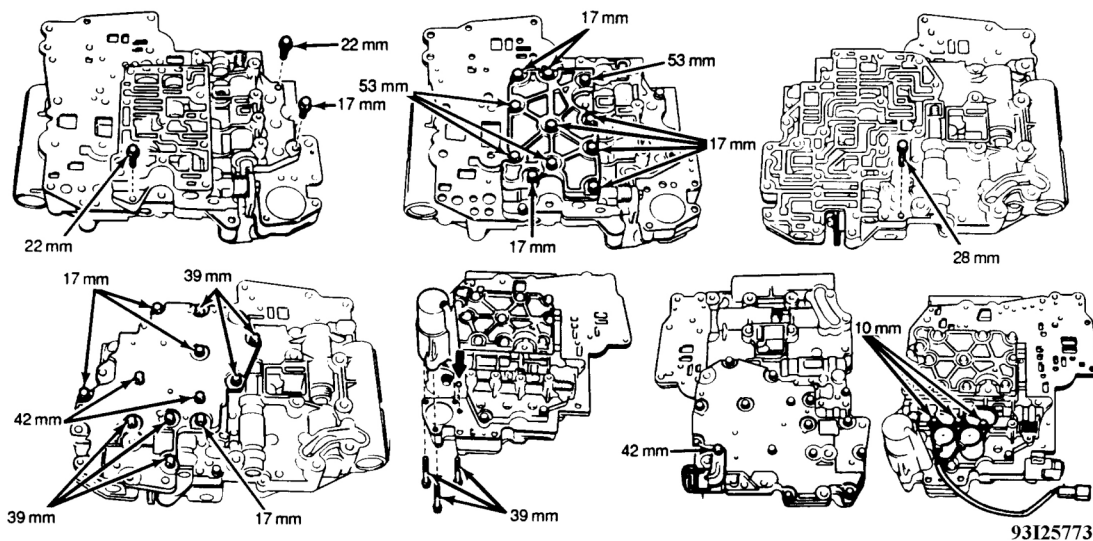

Fig. 40: Locating Valve Body Bolts
1. Position NEW No. 1 gasket, No. 1 plate and NEW No. 2 gasket on upper valve body. Place upper valve body with No. 1 plate and gaskets on lower valve body. Hold upper valve body, No. 1 plate and gaskets so they do not separate. Align each bolt hole in valve bodies with gaskets and plate. Note length and location of bolts. Install and finger tighten 3 bolts in upper valve body to secure lower valve body. See **Fig. 40**.
2. Install lock-up relay valve sleeve stopper. Install upper valve body cover gaskets, plate and throttle modulator oil strainer. Install upper valve body cover, and finger tighten 11 bolts in valve body cover. See **Fig. 40**. Install and finger tighten bolts in lower valve body.